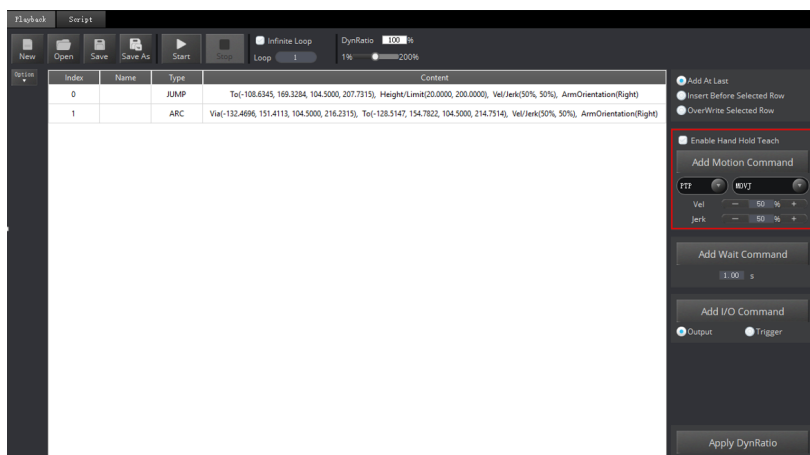

Figure 6.5 Choose motion mode
Step 4 Select **PTP > JUMP** on the **Playback** page, as shown in Figure 6.5. The constraints in the JUMP mode are as shown in 6.1.4 *Saving point in JUMP Mode*.